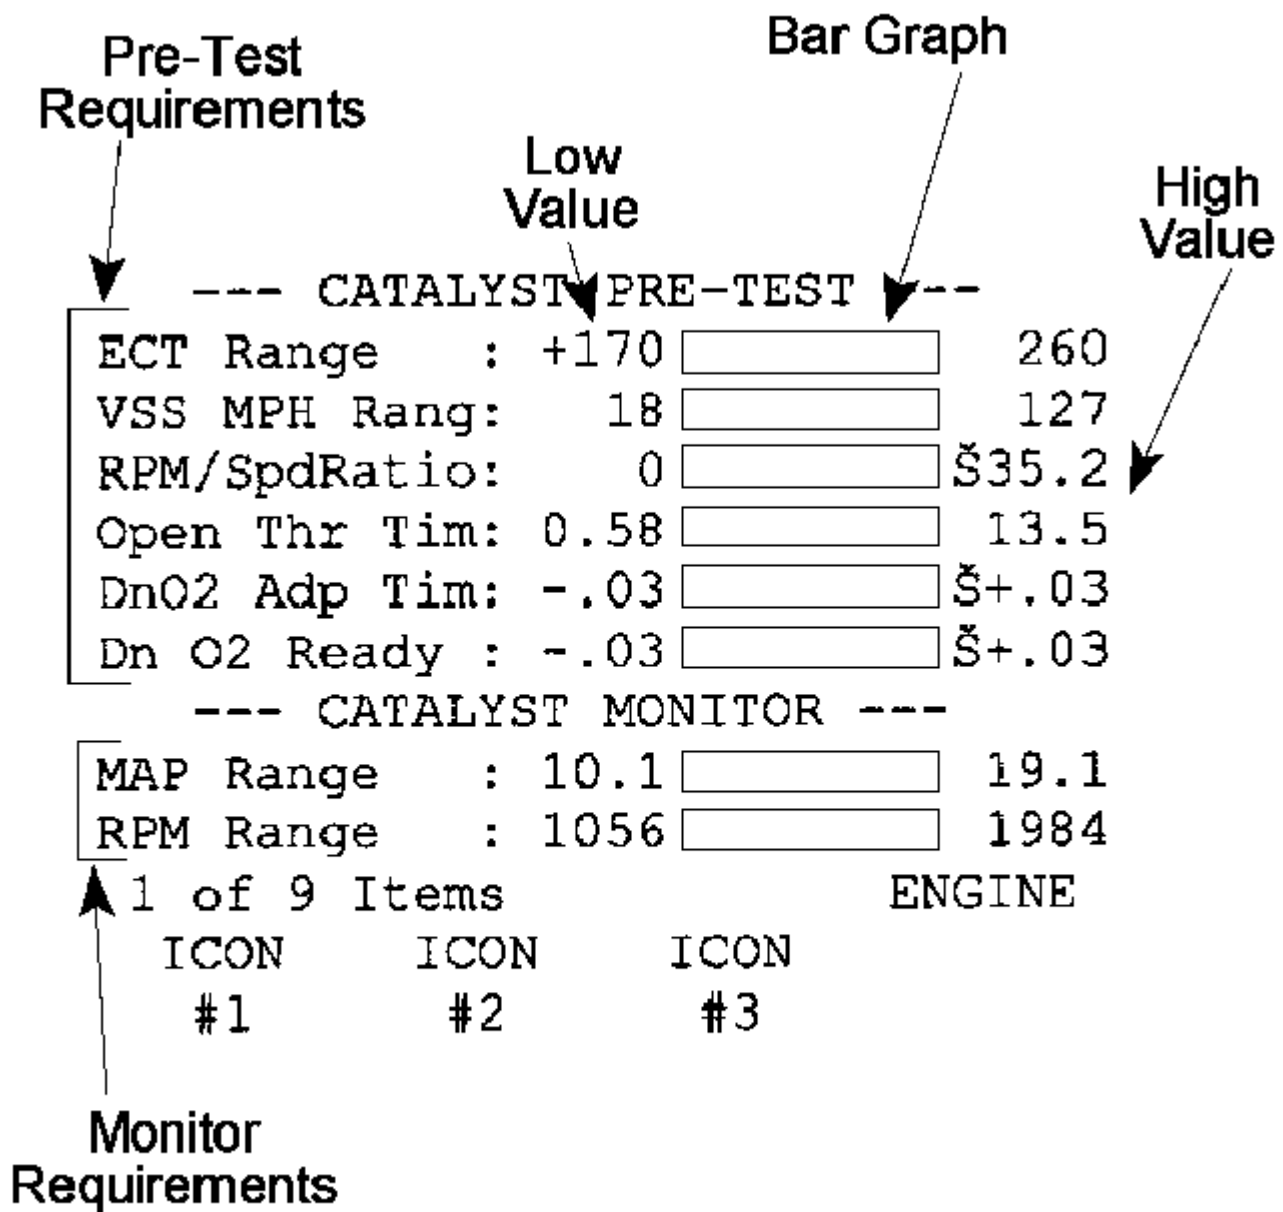

FIGURE 1
The vehicle must be operated in various conditions (speed, temperature, etc.) for the monitors to run. Each monitor includes a pre-test and monitor test that can be viewed on the DRB III[®]. The pre-test/monitor test screen lists all the preliminary parameters that must be met along with the running parameters for that specific monitor to run. An example of one screen is shown in Figure 1.
The low value/high value provides the minimum and maximum operating conditions for each item (ie ECT Range must be between 170^o and 260^o F in Figure 1). The bar graph will begin to fill when the lowest value required for each item is met. This provides a visual indication that the parameters are being met. The vehicle should be driven until most of each pre-test bar graph is filled.
5. Purge Monitor - To see a similar screen format as listed in Figure 1, press the F1 key on the DRB III[®] while in the Purge Flow Pre-Test screen. The purge free (PF) cells must update and the monitor will attempt to run on every other throttle closure. Automatic transaxle vehicles must be left in drive for the test to run. If all parameters are met and the test still will not run, place your foot on the brake, open the throttle to 1/4 and then quickly close the throttle. This should allow the PF cells to update.
5. Purge Monitor - To see a similar screen format as listed in Figure 1, press the F1 key on the DRB III® while in the Purge Flow Pre-Test screen. The purge free (PF) cells must update and the monitor will attempt to run on every other throttle closure. Automatic transmission vehicles must be left in drive for the test to run. If all parameters are met and the test will still not run, place your foot on the brake, open the throttle to 1/4 and then quickly close the throttle. This should allow the PF cells to update.